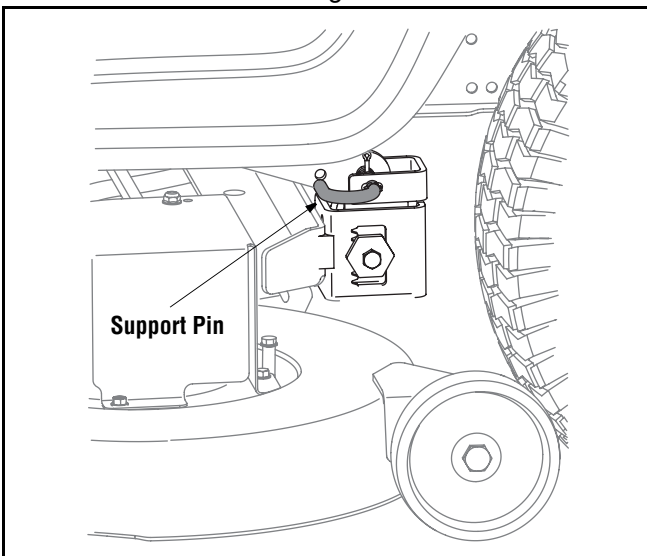

Figure 18
- Remove the PTO belt from around the tractor's engine pulley (or electric PTO clutch, if so equipped) and idler pulley(s). See Figure 18.
- Looking at the cutting deck from the left side of the tractor, locate the deck support pin on the rear left side of the deck. See Figure 18.